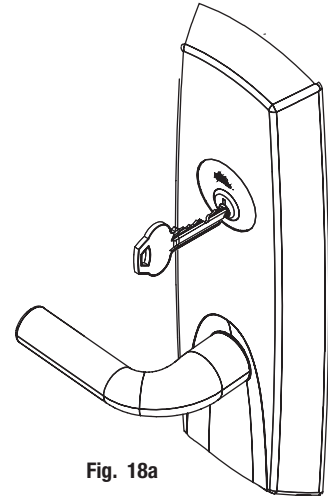

Fig. 18a
- a. Insert key into cylinder and rotate (Fig. 18a).